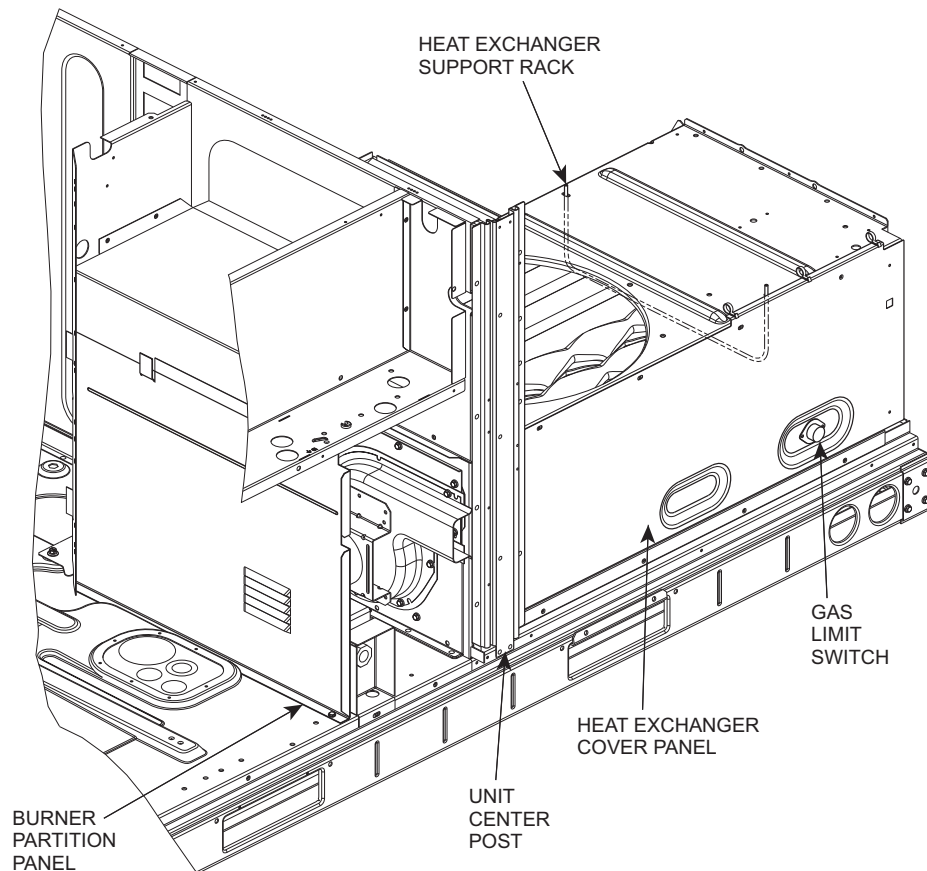

Fig. 54 — Heat Exchanger Access - Internal Panels, Center Post and HX Rack Locations
1. Remove the screw at the base of the burner partition panel (see Fig. 54) and slide out the panel.
5. Remove the screw at the base of the burner partition panel (see Fig. 54) and slide out the panel.
3. Remove the unit center post (see Fig. 54).
Remove the indoor blower access panel. Limit switch is located on the heat exchanger cover panel. See Fig. 54.